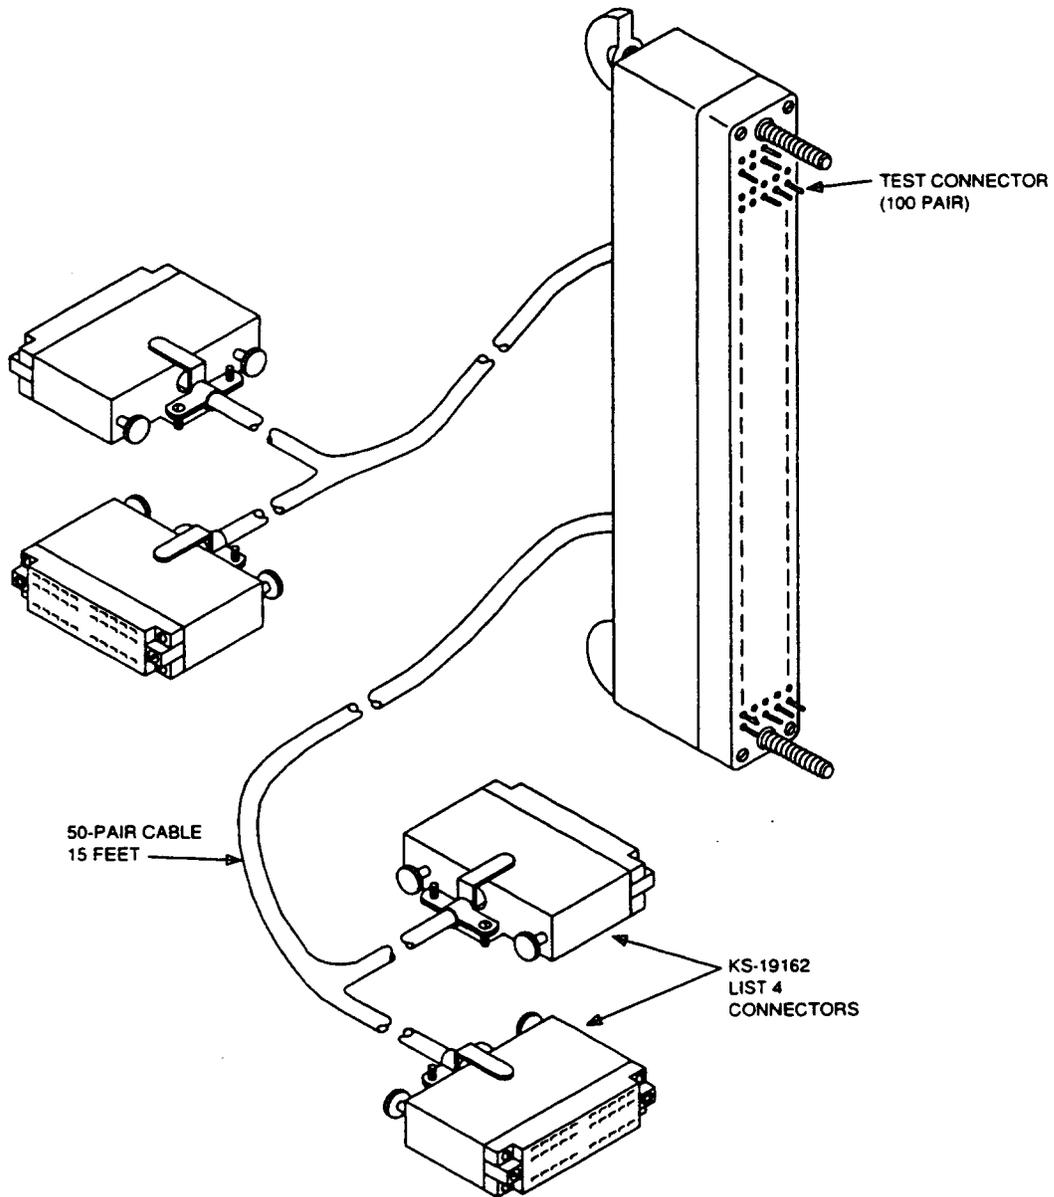

Figure 22. T Test Connector (AT-8987)
- 6.06 The T test connector (Figures 22 and 23) is a 100-pair test connector that is used for making multiple pair tests on the 311-type connector.